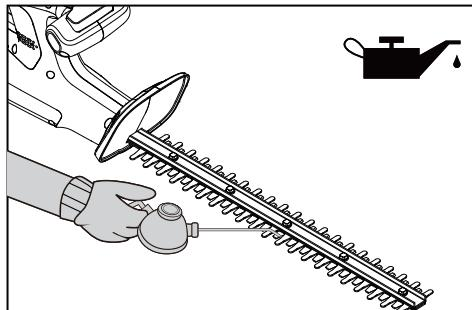

Fig. 7
- Lubricate the blade using a lightweight machine oil. Before lubricating, ensure the batteries are removed. (Fig. 7)